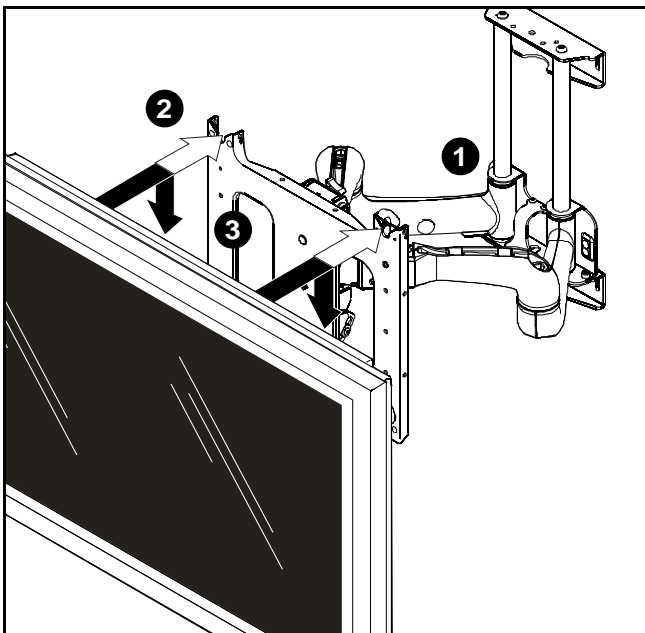
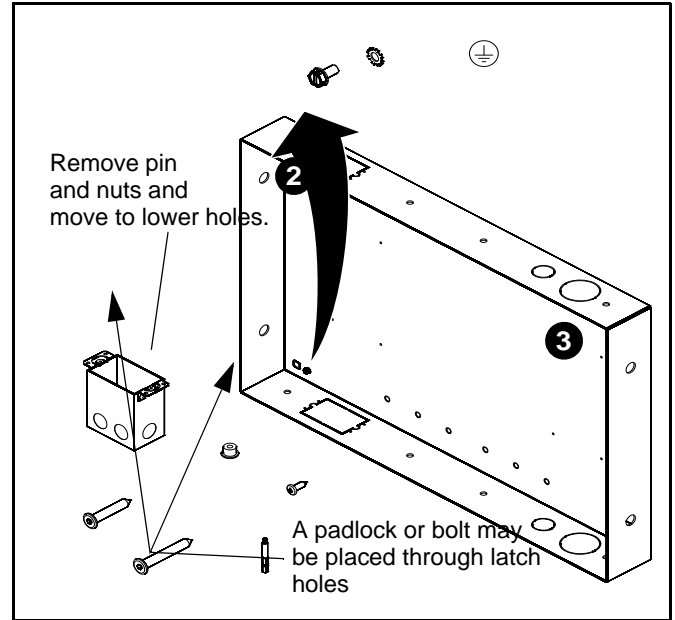

Figure 5
Figure 6
1. Move mount faceplate to extended position by grasping faceplate and pulling outward away from wall. (See Figure 5)
2. While supporting both sides of display, align four mounting buttons on display or interface bracket with four mounting holes in faceplate. (See Figure 5)
3. Lower display into place listening for audible "click" to ensure recessed area of mounting buttons are properly seated in lower area of mounting holes and "click lock" mechanism has engaged. (See Figure 5) and (See Figure 6)
NOTE: Holes are provided in the faceplate for use with a padlock or similar locking device, if desired. In addition, the pin and nut may be removed from the upper holes and moved to the lower holes for use as a more permanent locking device. (See Figure 6)